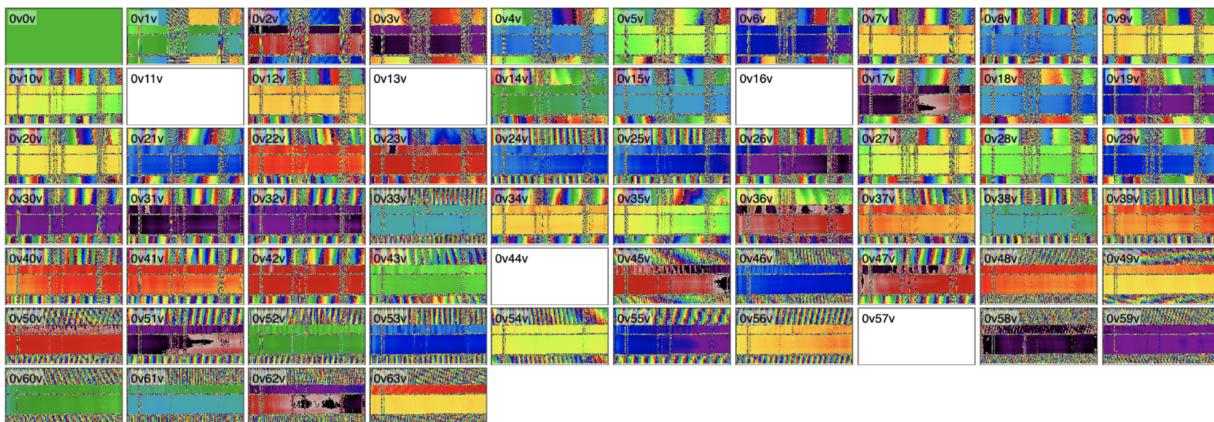

Figure 9.9: Horizontal polarisation plot (wtabhh)
- Horizontal polarisations waterfall plot (wtabhh), this will display the waterfall in **Figure 9.9**. polarisations.